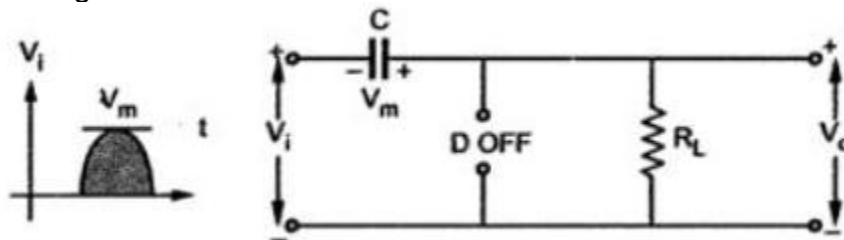

Fig. 2.29 Operation of Positive clamper during Positive half cycle
- But due to large time constant, it hardly gets discharged during positive half cycle of V_i . This is shown in the Fig. 2.29.